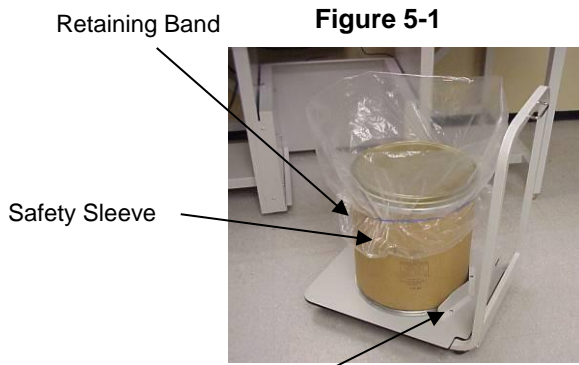

Figure 5-1
Please see Figures 5-1 through 5-9 for using your XPert Bulk Powder Enclosure effectively.
- For hazardous powders, prepare the source container with the safety sleeve and retaining band as shown in Figure 5-1 and 5-2.